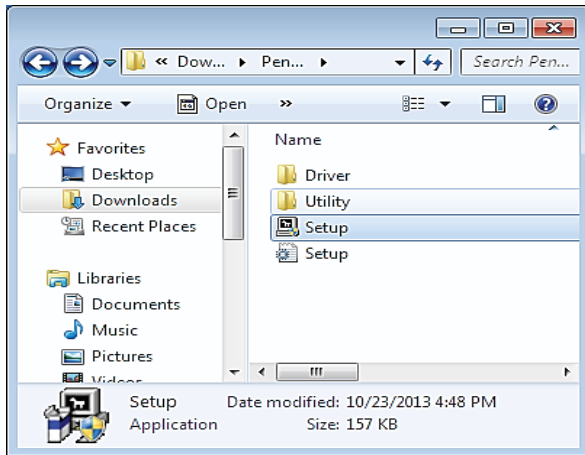

Fig.1
Step 1: After extracting the files, run “Setup.exe” (Fig.1).